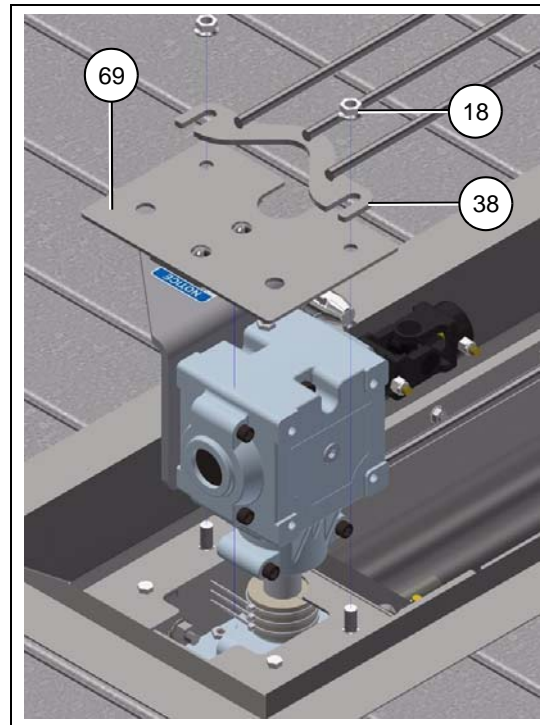
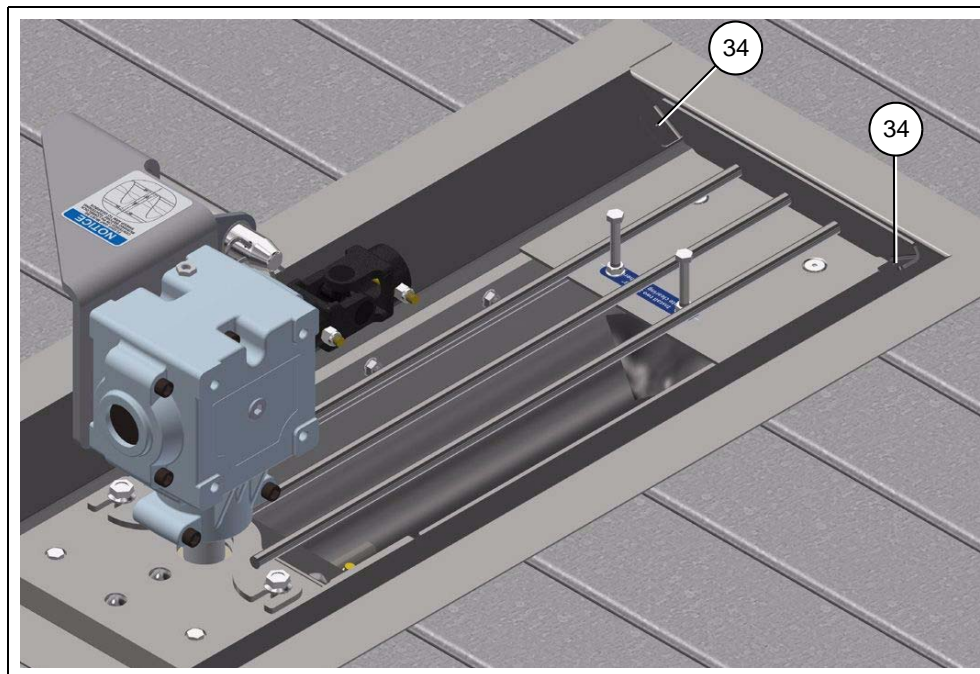

Figure 4S
Figure 4T
7. Install the gearbox access cover (69) and the center floor flange grate (38). Secure them with the two flange nuts (18) removed earlier. Secure the center floor flange grate (38) with self-tapping screws (33) (not provided). *(See Figure 4S and Figure 4T.)*